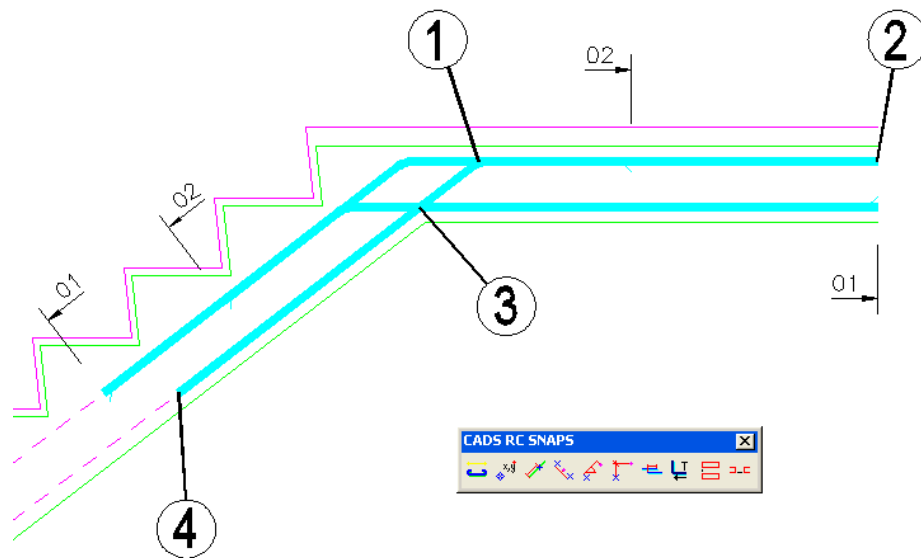

Figure 3.6.16:1 Placing Order of Shape Code 15 in the top landing
- Figure 3.6.16:1 above shows where to pick the points to place the bar